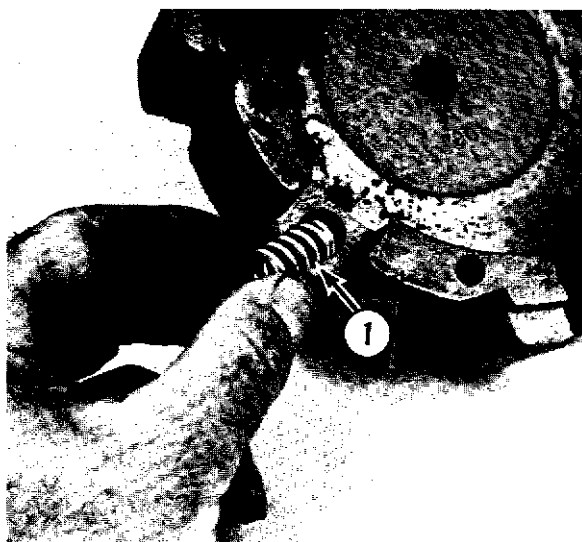

Fig. 9-13
- (3) Insert the three clutch release springs (1, Fig. 9-13).